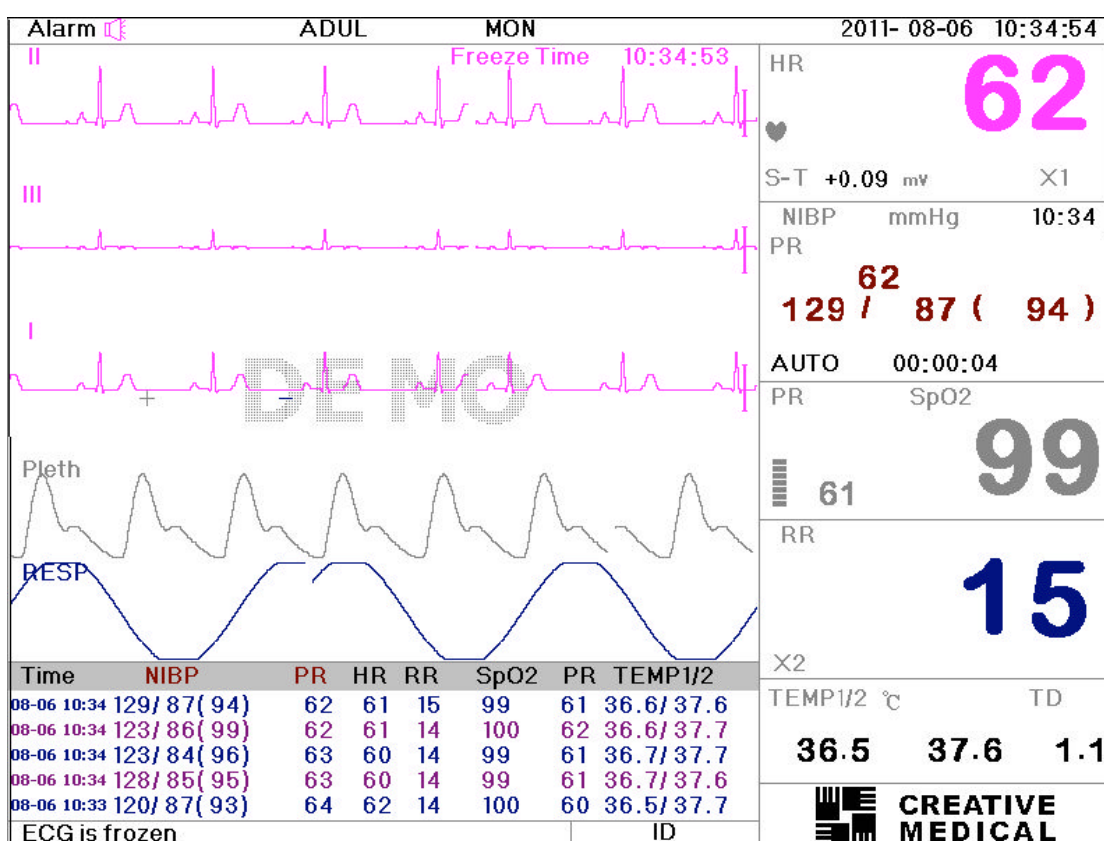
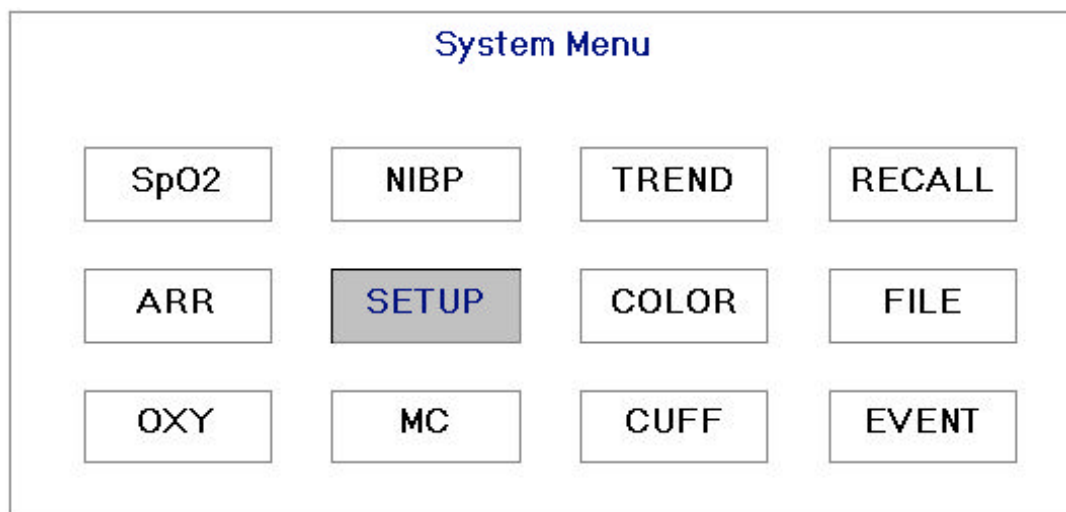

Figure 4.2
Figure 4.11 Mode selection screen
step 5: If you have finished adjusting the date and time, press the knob and rotate the knob to move the cursor to “Save”. Press it to save the settings and exit the date and time setting screen, meanwhile enter into the main screen shown in Figure 4.2. If you press “Exit”, the settings will not be saved.
The system is initialized and enters into Main Screen where monitoring and system operation are performed. (as shown in Figure 4.2).
Press the "Navigation Knob" in the main screen as shown in Figure 4.2, the operating area shows the mode selection screen, as shown in Figure 4.11.